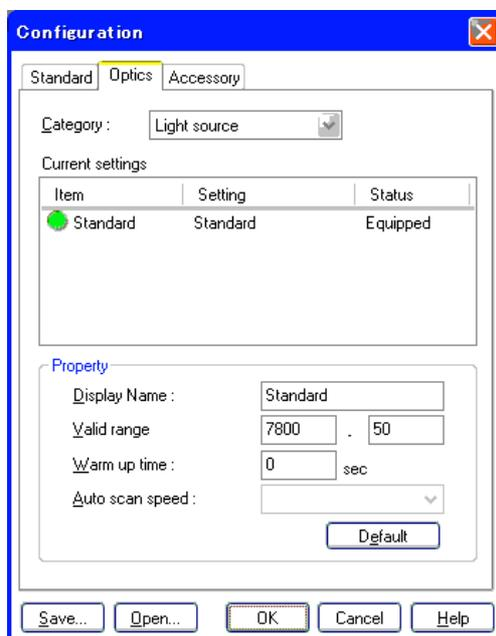

Fig.2.6 [Configuration (Optics-Light source)] dialog
(5) Next, select the [Optics] tab (Figs.2.6 and 2.7). Each item should be set so as to optimize the registered FT-IR. Except for a multi-configuration FT-IR, you can set only two items: the source and detector names. Tables 2.1 and 2.2 show the standard settings for the source and the detector.